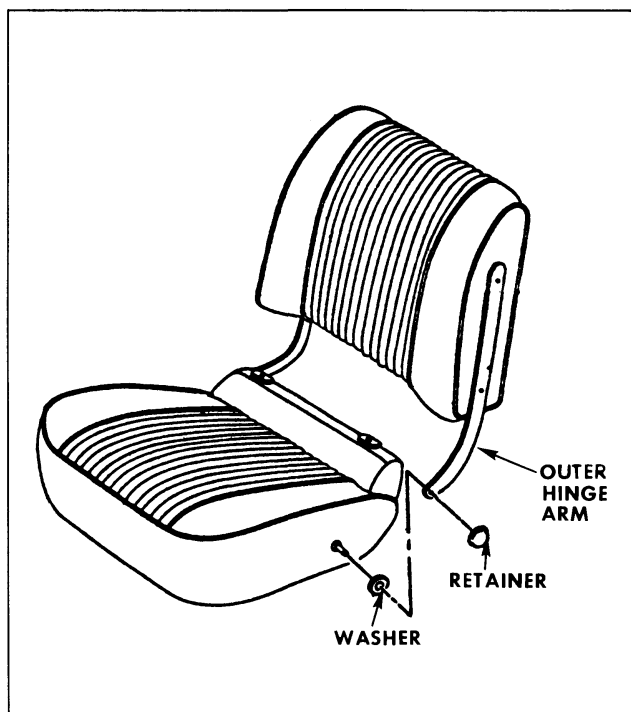

Fig. 22-1 Bucket Seat Back Removal
1. Using a flat-bladed tool, carefully remove retainer from outer hinge pin (Fig. 22-1).